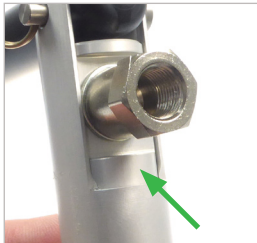

Figure 8
- ▶ Give a short spray with the target tube between the housing and the piston on the connector top (*Figure 8*).